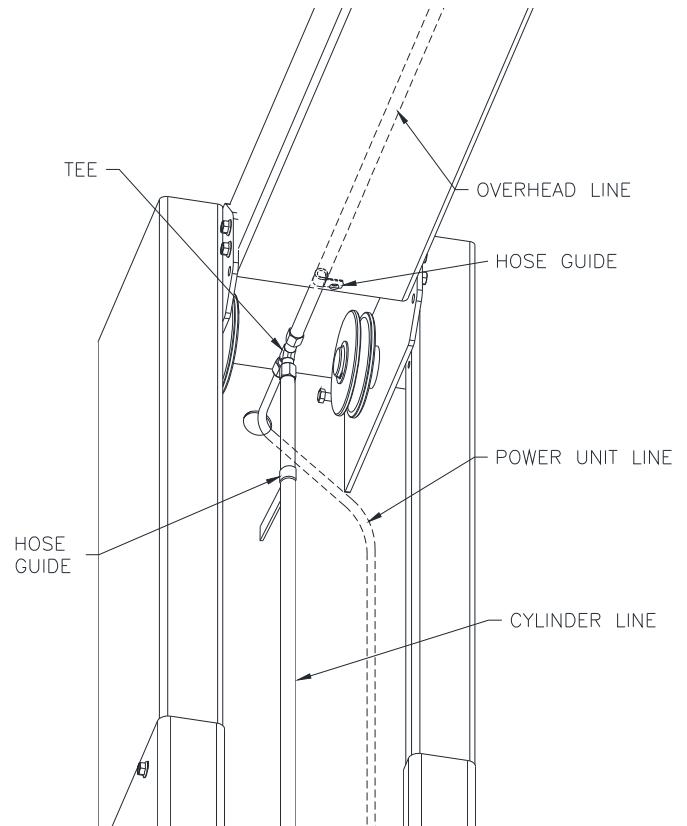

Fig. 11– Power Side Column Ext. Hyd. Routing
- 20) Connect the cylinder line to the overhead line using a tee. Install the power unit line to the tee in the Power column and to the power unit outlet port. Install hose clamps with a 3/8"-16 x 3/4" hex flange bolt and 3/8"-16 hex flange nut. Install (2) hose clamps in overhead and (1) hose clamp in each column extension (**Fig. 11**).